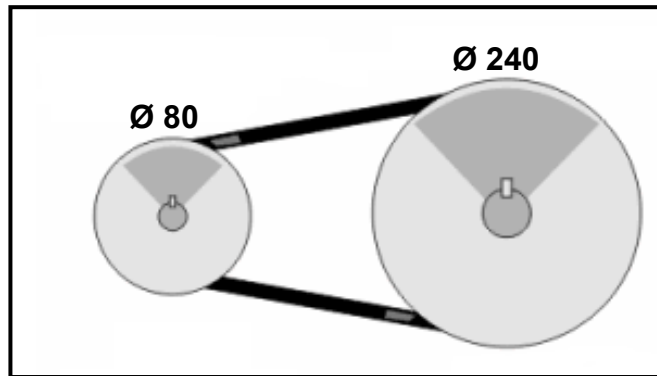

FIGURE 1.5
1.16 What is the velocity ratio of the pulley system in FIGURE 1.5 below if the smaller pulley is the driver pulley?